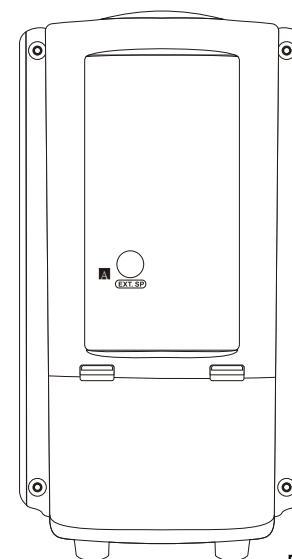

Fig. 1
1. SMART 300 Passive Speaker. (Fig.1)